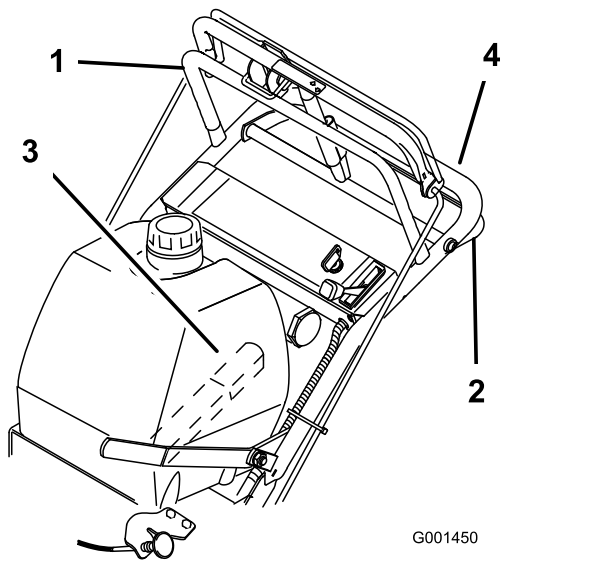
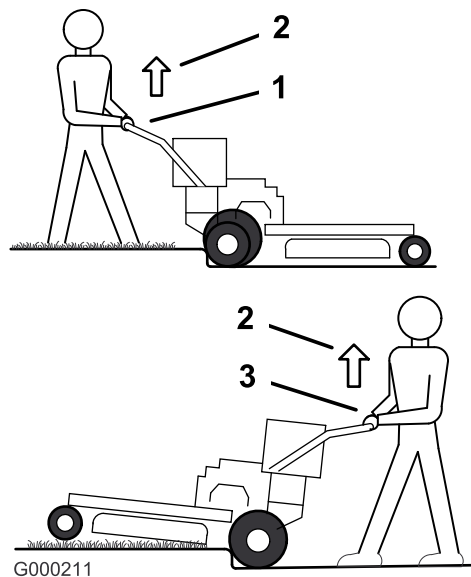
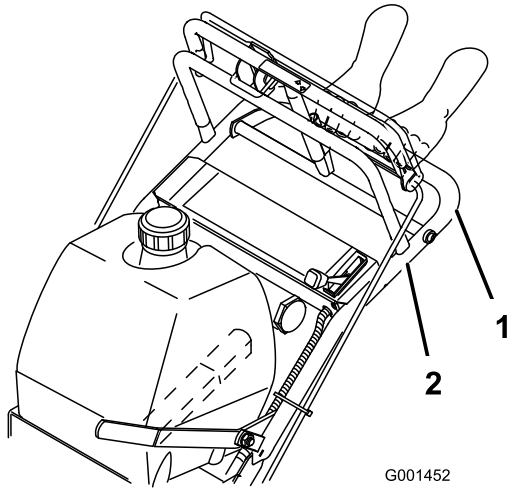

Figure 9
Figure 10
Figure 11
1. To move the machine forward, move the shift lever to a forward gear (Figure 9).
3. Slowly press the upper control bar to move forward (Figure 9).
To move straight, apply equal pressure to both ends of the upper control bar (Figure 9).
To turn, release pressure on the upper control bar side in the direction you want to turn (Figure 9).
3. Slowly squeeze the lower control bar and lower handle together to move rearward (Figure 9).
3. Drive machine until the caster wheels contact the curb (Figure 10).
4. Lift the front of the machine by pushing down on the lower handle (Figure 10).
5. Drive the machine until the drive wheels contact the curb (Figure 10).
6. Lower the front of the machine (Figure 10).
7. At the same time, engage the lower control bar and lift up on the lower handle to drive over the curb (Figure 9 and Figure 10).
3. Drive the machine until the drive wheels contact curb (Figure 10).
- At the same time, engage the lower control bar and lift up on the lower handle (Figure 9 and Figure 11).